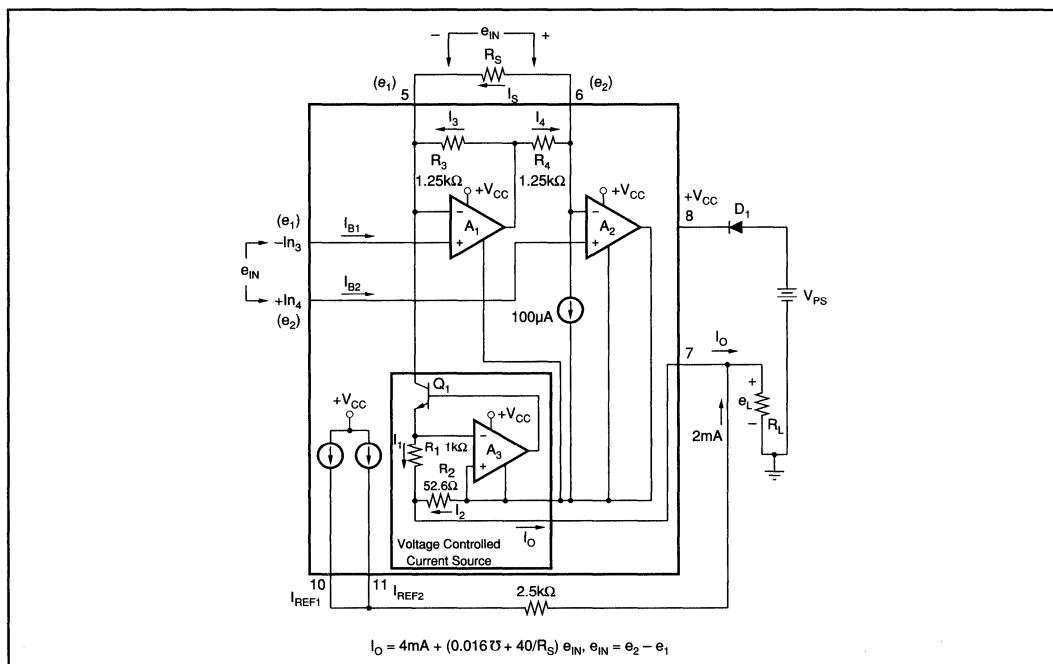

FIGURE 1. Simplified Schematic of the XTR101.
A simplified schematic of the XTR101 is shown in Figure 1. Basically the amplifiers, A_1 and A_2 , act as a single power supply instrumentation amplifier controlling a current source, A_3 and Q_1 . Operation is determined by an internal feedback loop. e_1 applied to pin 3 will also appear at pin 5 and similarly e_2 will appear at pin 6. Therefore the current in R_S , the span setting resistor, will be $I_S = (e_2 - e_1)/R_S = e_{IN}/R_S$. This current combines with the current, I_3 , to form I_1 . The circuit is configured such that I_2 is 19 times I_1 . From this point the derivation of the transfer function is straightforward but lengthy. The result is shown in Figure 1.
The basic connection of the XTR101 is shown in Figure 1. A difference voltage applied between input pins 3 and 4 will cause a current of 4-20mA to circulate in the two-wire output loop (through R_L , V_{PS} , and D_1). For applications requiring moderate accuracy, the XTR101 operates very cost-effectively with just its internal drive transistor. For more demanding applications (high accuracy in high gain) an external NPN transistor can be added in parallel with the internal one. This keeps the heat out of the XTR101 package and minimizes thermal feedback to the input stage. Also in
- It is recommended that a reverse polarity protection diode (D_1 in Figure 1) be used. This will prevent damage to the XTR101 caused by a momentary (e.g., transient) or long term application of the wrong polarity of voltage between pins 7 and 8.